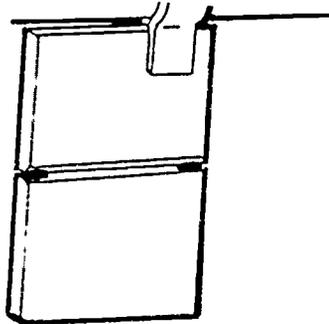

FIGURE 5
- G. Place metal in horizontal position for welding (Figure 5)